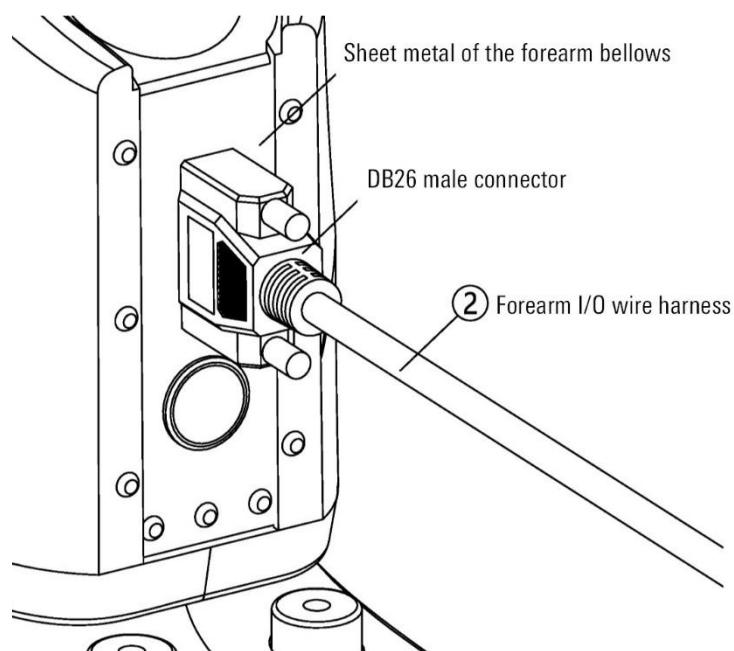

Figure 5-2 I/O harness connection diagram on the forearm
Step2. Connect one end of the I/O wire harness with the DB26 male connector on the forearm to the DB interface on the sheet metal of the forearm bellows, and connect the loose wire end on the other side to the customer's own end effector (refer to Figure 5-2).